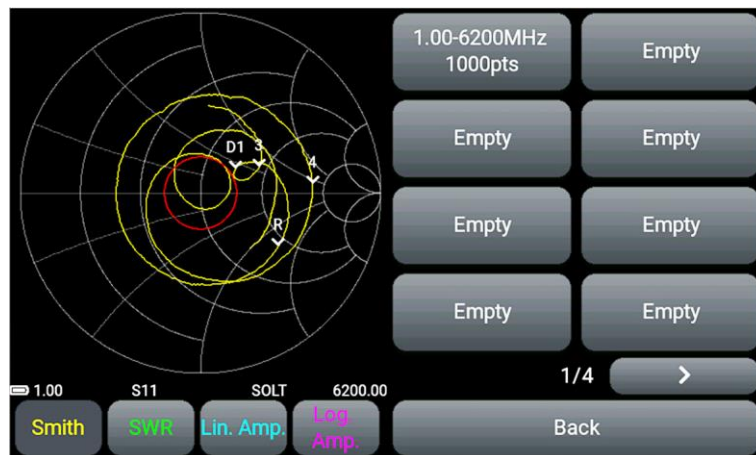

Figure 9.26 - Menu for saving measurement results
9.13.1. Enter the **Traces** section of the main menu of the device (Figure 9.26).